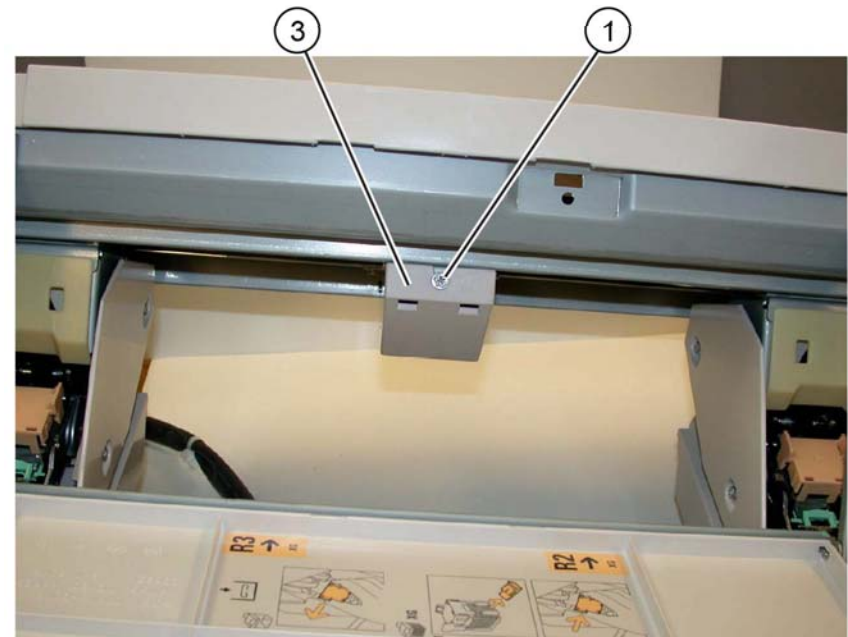

Figure 1 Cover removal
2. Remove the cover for the booklet stapler move motor, **Figure 1**:
- a. Remove the screw (1).
- b. Remove the cover (2).